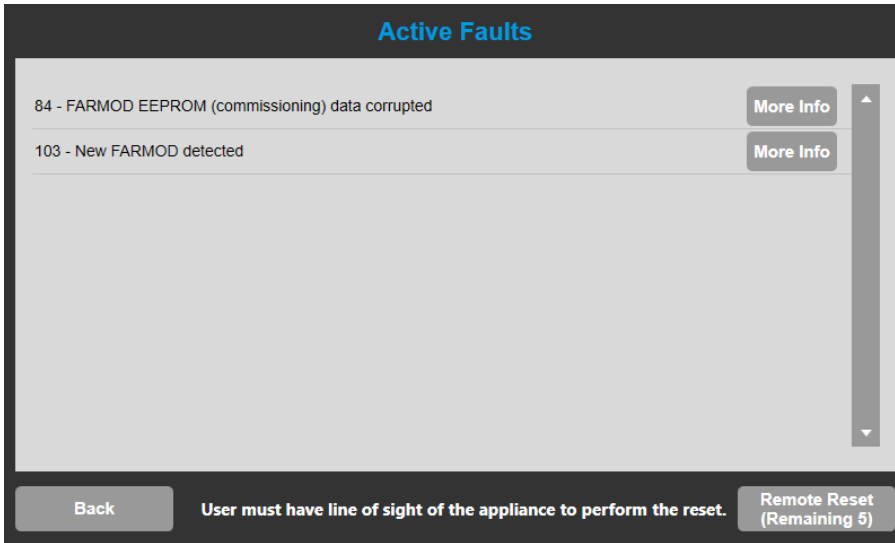

Fig. 124: Active faults with new FARMOD.
2. Once the valve is repowered, there will be 2 active faults present. Refer to Fig. 124.